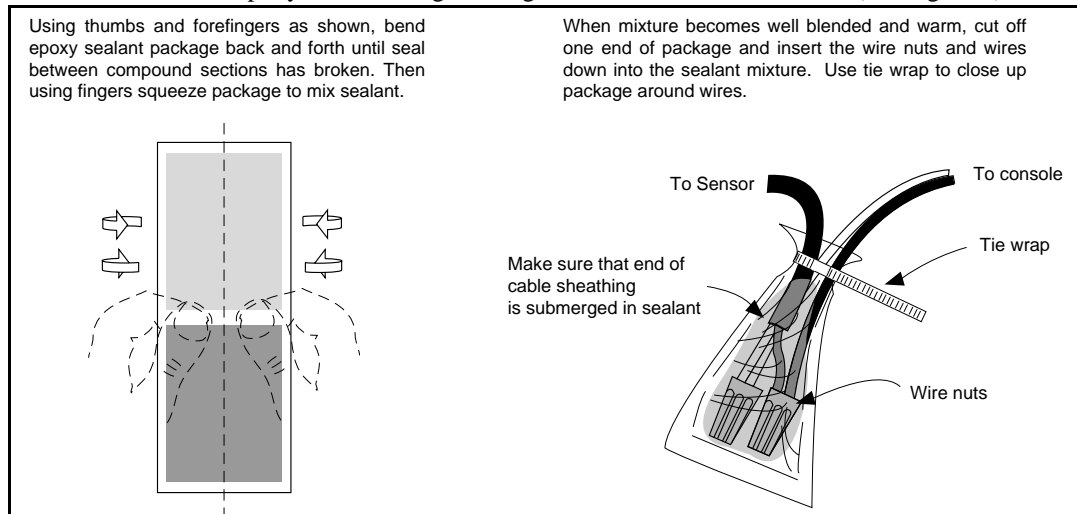

Figure 3. Epoxy Sealant for Two-Wire Connections
- Seal wire nuts with epoxy sealant using one bag for two wire nut connections (see Figure 3).